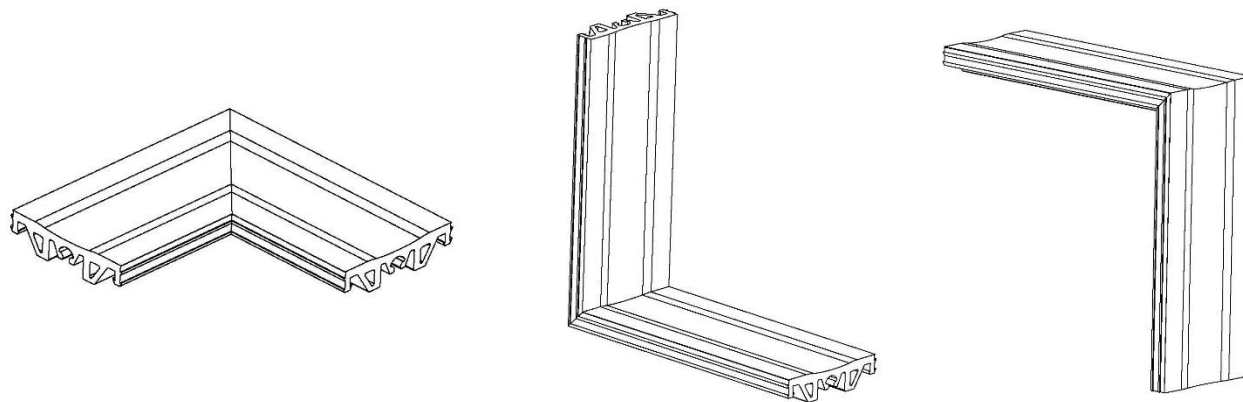

Figure 4
3. Check the splices after the adhesive has cured and reapply adhesive as necessary. Allow 15 minutes prior to installing seal. It typically takes 24 hours for adhesive to fully cure and achieve proper working strength. Ensure that the splice of the seal is not within 2" of a joint in the aluminum extrusion. **See Figure 4**